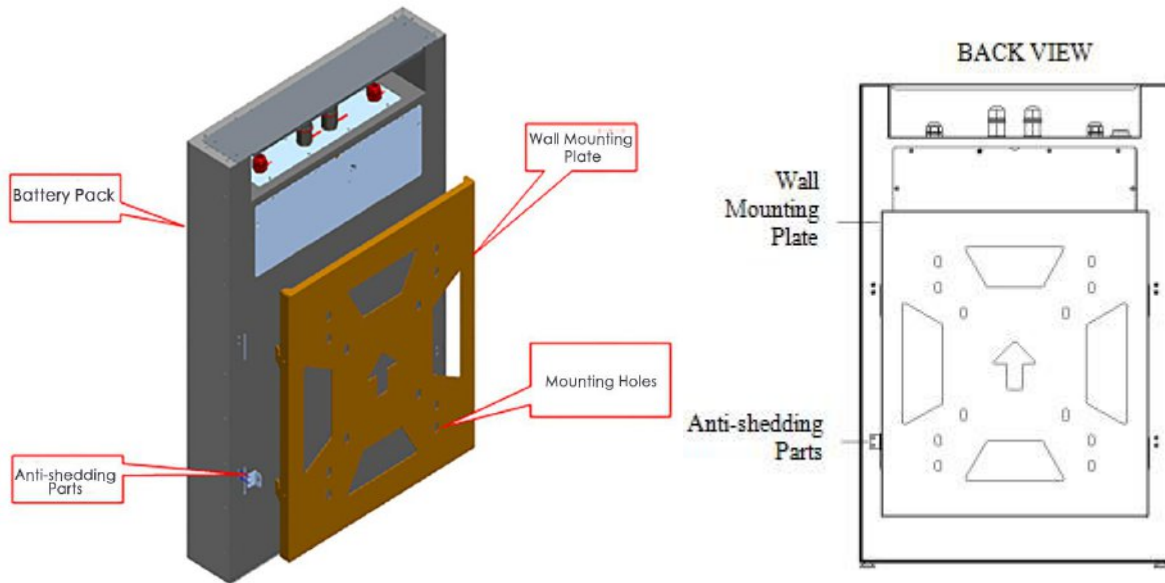

Figure 3-6
c. Install the wall mounting plate on the wall as shown in Figure 3-6 below; fix it with M8\*50 tapping screws.